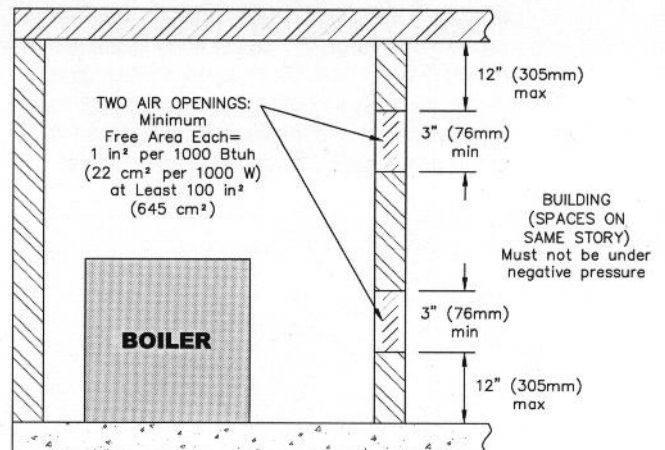

Figure 1.1: Air Openings – All Air from Indoors on the Same Floor
- a. **Combining spaces on the same floor:** Provide two permanent openings communicating with additional spaces that have a minimum free area of 1 in2 per 1000 Btu/hr (22 cm2 per 1000 W) of the total input rating of all gas fired equipment but not less than 100 in2 (645 cm2). One opening is to begin within 12 inches (305 mm) from the top of the space and the other is to begin within 12 inches (305 mm) from the floor. The minimum dimension of either of these openings shall be 3 inches (76 mm). See Figure 1.1 for an illustration of this arrangement.